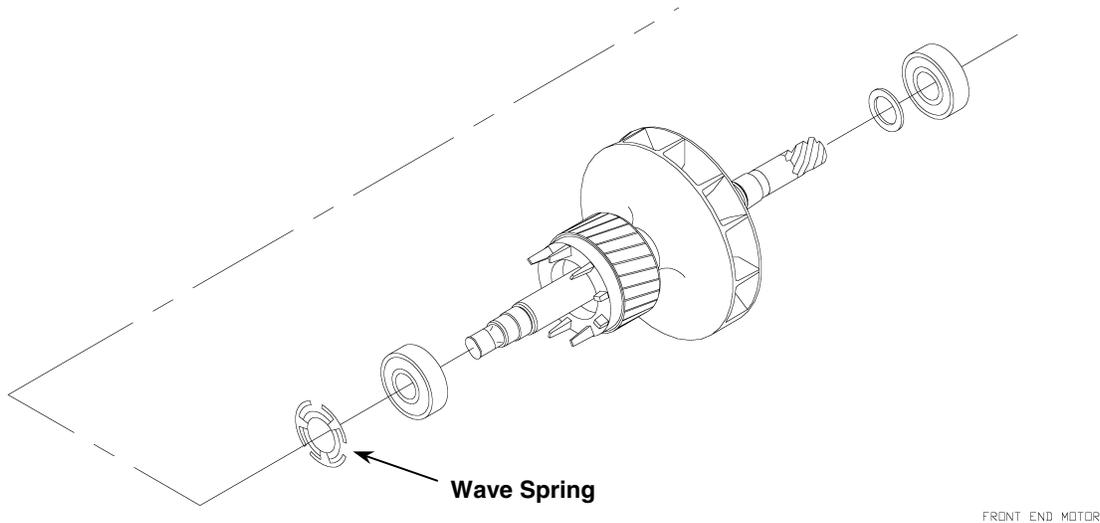

Figure 3, Rotor Assembly
3. After removing these bolts, the motor frame should come free of the gearbox. The rotor will either remain with the motor or with the gearbox. Remove the rotor. Save the wave spring (see Figure 3) on the top rotor bearing.